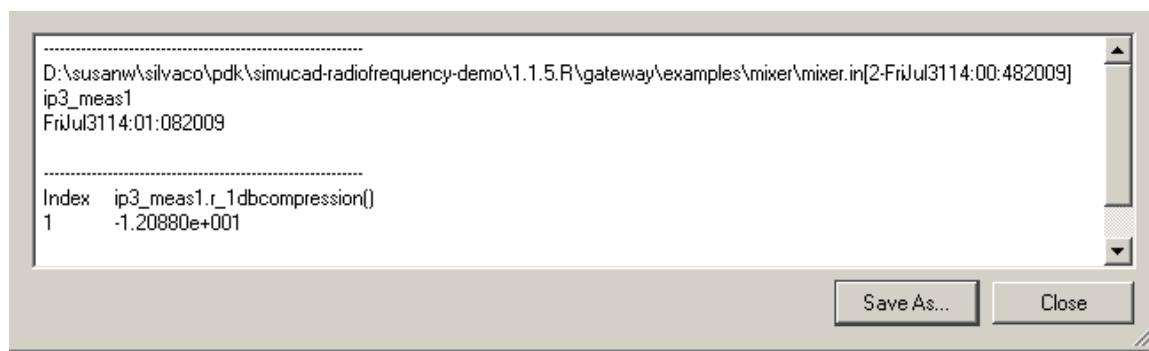

Figure 13: View Data Window: 1 dB Compression Point = -12.09 dBm
2.10.2: In SMARTSPICERF, you can see the actual values that are being plotted. To view these, select vector “`r_1dbccompression`” from “`meas1`” and press **View Data** and 1dB compression point value is shown in Figure 13.